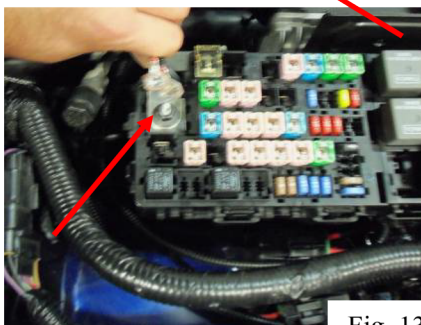

Fig. 13
34) Attach both red wires from the fuse holders to the main power distribution of the fuse box (Fig. 13).